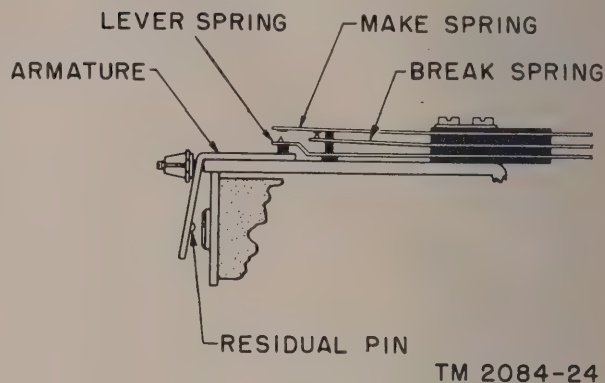
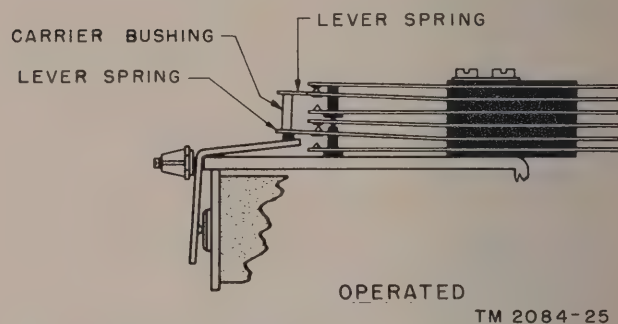

Figure 22. Make-before-break springs.
Figure 23. Double spring pile-up, operated.
(3) *Other spring combinations.* Another spring set (fig. 22) provides make-before-break contacts. In this case, the lever spring makes contact with the make spring before the make spring breaks with the break spring. Figure 23 shows a pile-up